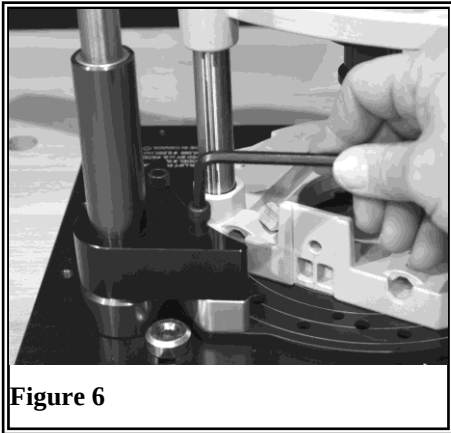

Figure 6
7. With two ¼-20 x 1-1/2" Cap screws you removed in Step 1, re-engage into the left carriage bracket. (Figure 6)